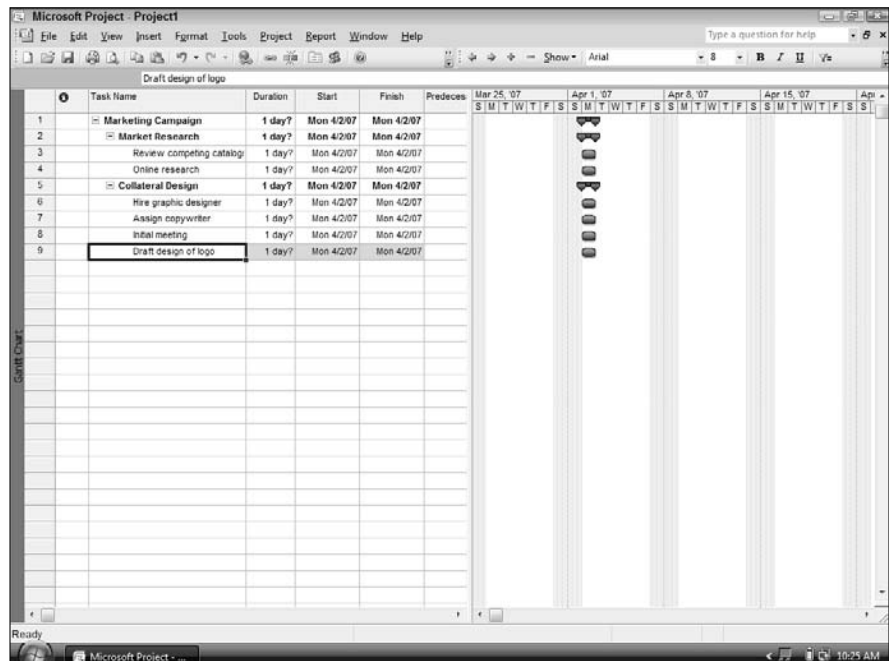

Figure 1-1:
1. **Planning:** Whether it takes hours, days, or months, this is a very important phase. This is when you identify your goal or goals (see Chapter 2 of this minibook for more about this process), get management support for the project, and line up your internal and external resources, including people, facilities, equipment, and so on. In Project you can start to sketch out your Project plan by adding tasks that, at this point, might or might not have timing (see Figure 1-1) and entering information about resources that you'll use.